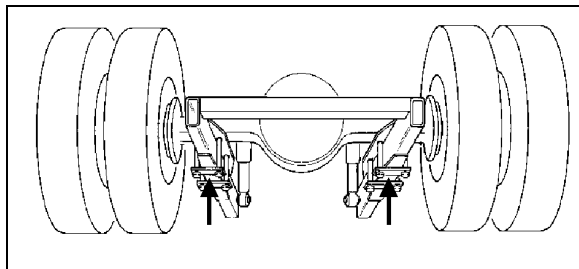
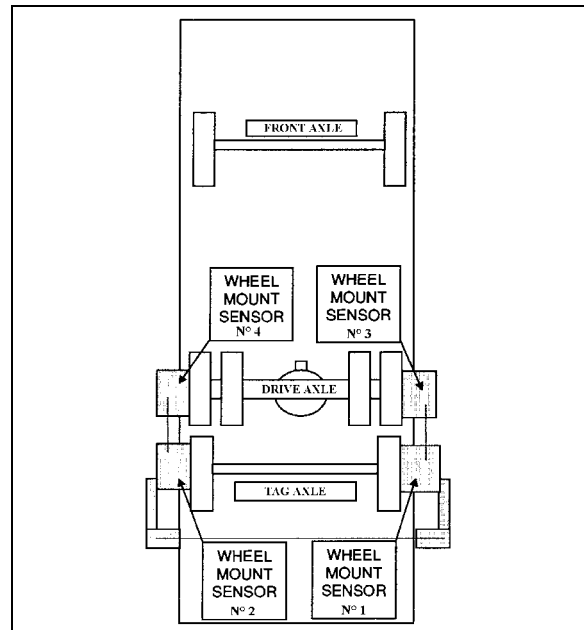

FIGURE 6: JACKING POINTS ON DRIVE AXLE H3B762
FIGURE 8: TAG AXLE ALIGNMENT 11026
8. Install jacks under the axle jacking points to support the axle weight (refer to figure 6).
- ◆ Remove and reinstall all wheel mount sensors on the drive and tag axes (fig. 8);
Note: Reinstall wheel mount sensors as shown in figure 8. For example, the sensor from the right side of the front axle is mounted on the left side of the tag axle. For corresponding wheel mount sensor reference numbers, refer to figure 6.